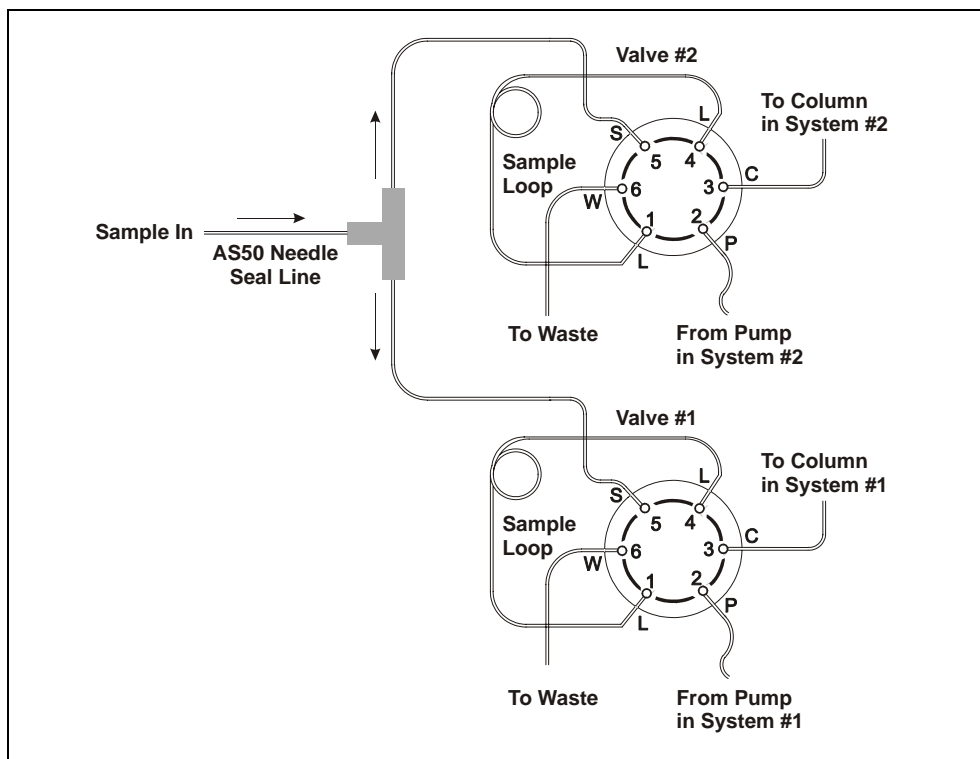

Figure E-6. Injection Valve Connections for Simultaneous Injection:
2. Connect the pump outlet line from system #1 to port P (2) on the bottom injection valve (valve #1) and connect the column outlet line from system #1 to port C (3) on valve #1 (see Figure E-6).
3. Connect the pump outlet line from system #2 to port P (2) on the top injection valve (valve #2) and connect the column outlet line from system #2 to port C (3) on valve #2 (see Figure E-6).